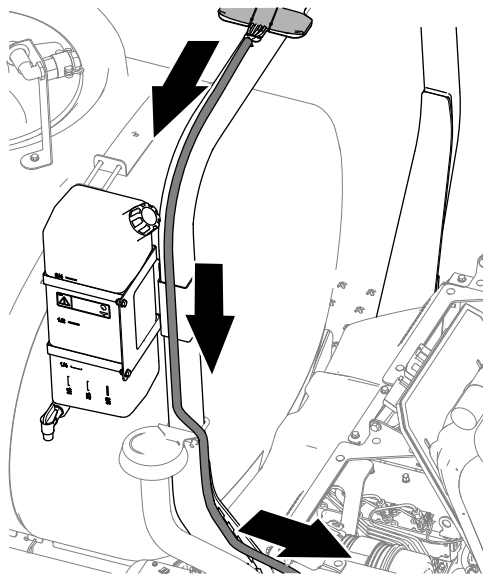

Figure 128
1. Route the modem-antenna harness to the right, along the roll bar (Figure 128).
2. Route the harness down, and forward as shown in Figure 128.